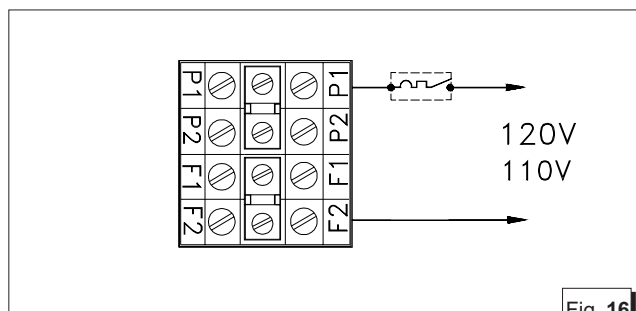

Fig. 16
1 - Parallel configuration: in this configuration there is a single output at 110 (120)V between points P_1 and F_2 , connecting the outputs of the alternator (P_1, F_1, P_2, F_2) as shown in the diagram in fig. 16.
N.B: In these cases just one magnetothermic device should be installed, see fig. 16/17.